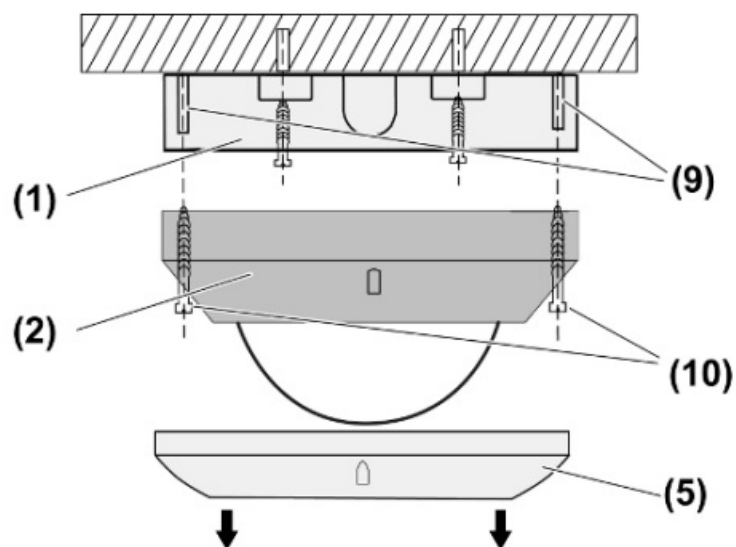

Figure 7: Mounting
- (1) Connection box
- (2) Sensor cover
- (5) Decor ring
- (9) Fastening pins
- (10) Screws
- Pull off decor ring (5) (see figure 7).
- Loosen screws (10) (see figure 7).
- Screw the sensor cover (2) to connection box (1) with screws (10) and mount-ing pins (9) (see figure 7).